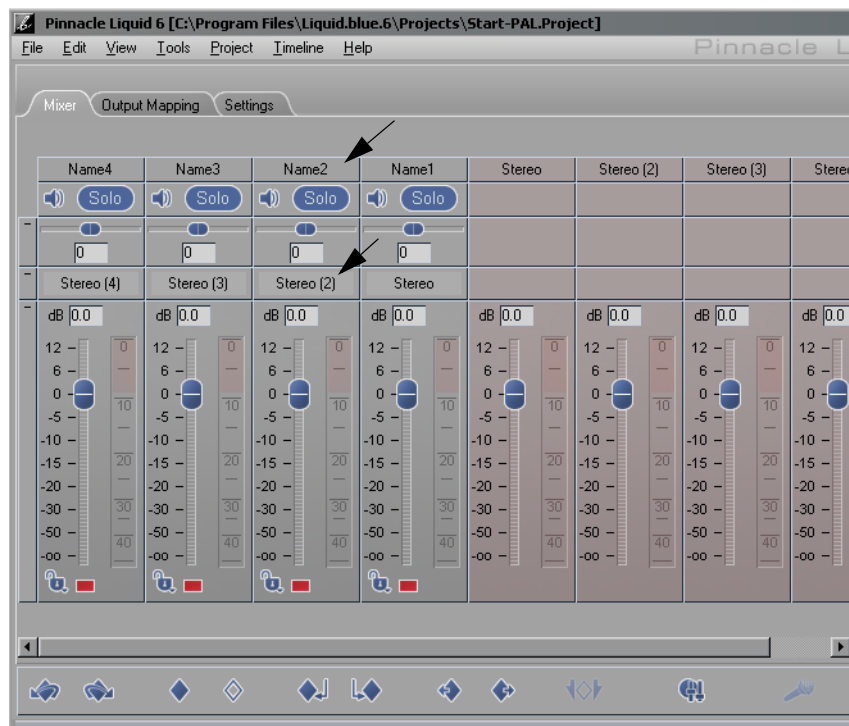

Figure 3-29: Four Logical Output Busses
The column now shows Stereo(2). Repeat these steps until you have the number of audio pairs desired. Figure 3-29 shows an audio setup with four logical busses configured. Notice that the logical bus called Stereo(2) corresponds to the sound clips placed on the timeline Name2, the logical bus Stereo(3) corresponds to the sound clips on the timeline Name3, and so on.